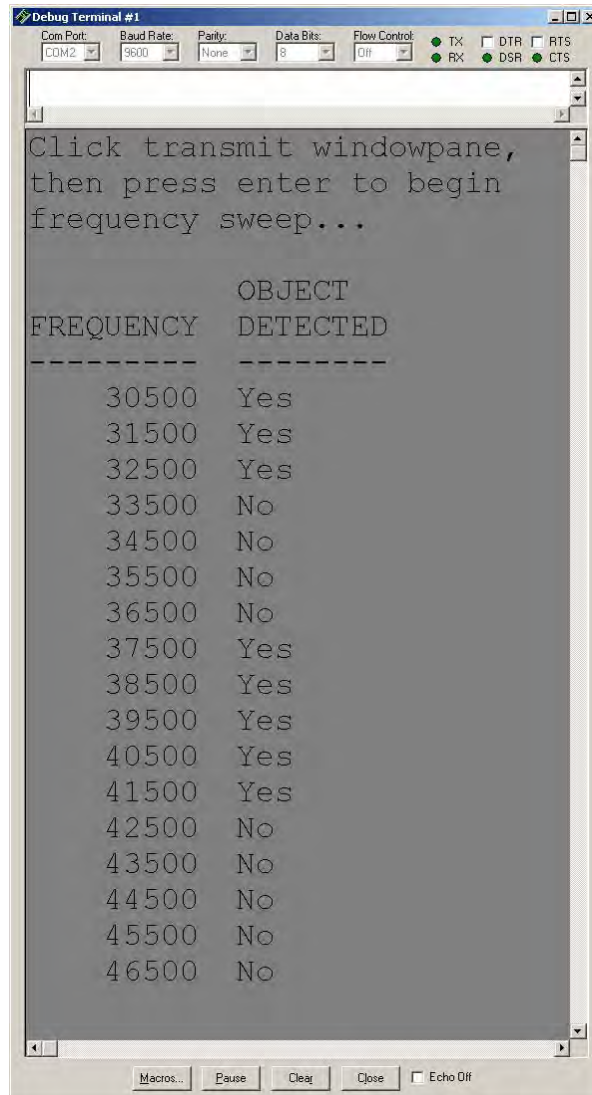

**Figure G-1**
- ✓ Click the upper of the two window panes shown in Figure G-1.
The BASIC Stamp has been programmed to make the Debug Terminal display a “Yes” if an object was detected and a “No” if an object was not detected. Figure G-1 shows that the left sensor’s region of good signal response is between 36500 and 42500.
- √ Modify the **FOR...NEXT** loop in Program Listing FrequencySweep.bs2 so that it steps in increments of 250 and includes the upper and lower limits of both detectors. Based on the data in the example shown in Figure G-1, the start, end, and step values of the **FOR...NEXT** loop would be modified as follows: